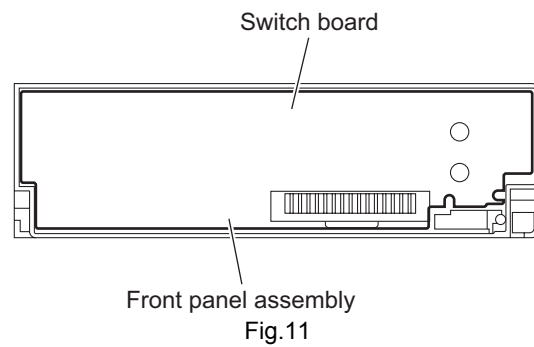

Fig.11
- Take out the switch board from the front panel assembly. (See Fig.11.)